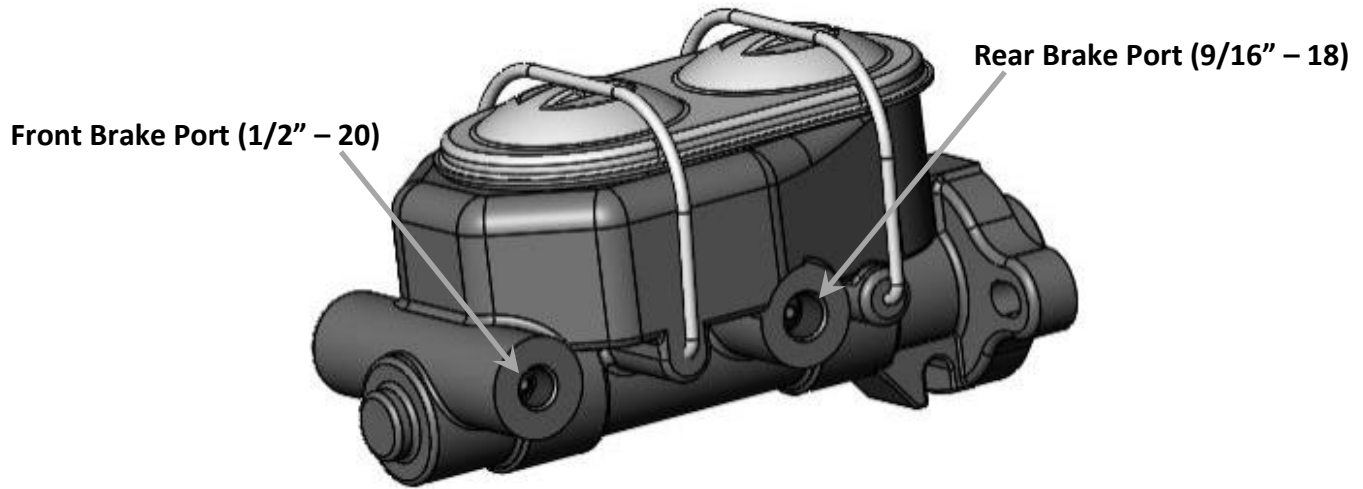

Figure 3 - Brake Line Orientation
8. Route the brake lines from the master cylinder to whatever valve is being used in the system. Refer to Figure 3 on the next page for proper orientation of the brake lines to the master cylinder. If installing with a Master Power Brakes Combination Valve and bracket, refer to those instructions on proper plumbing of the valve.